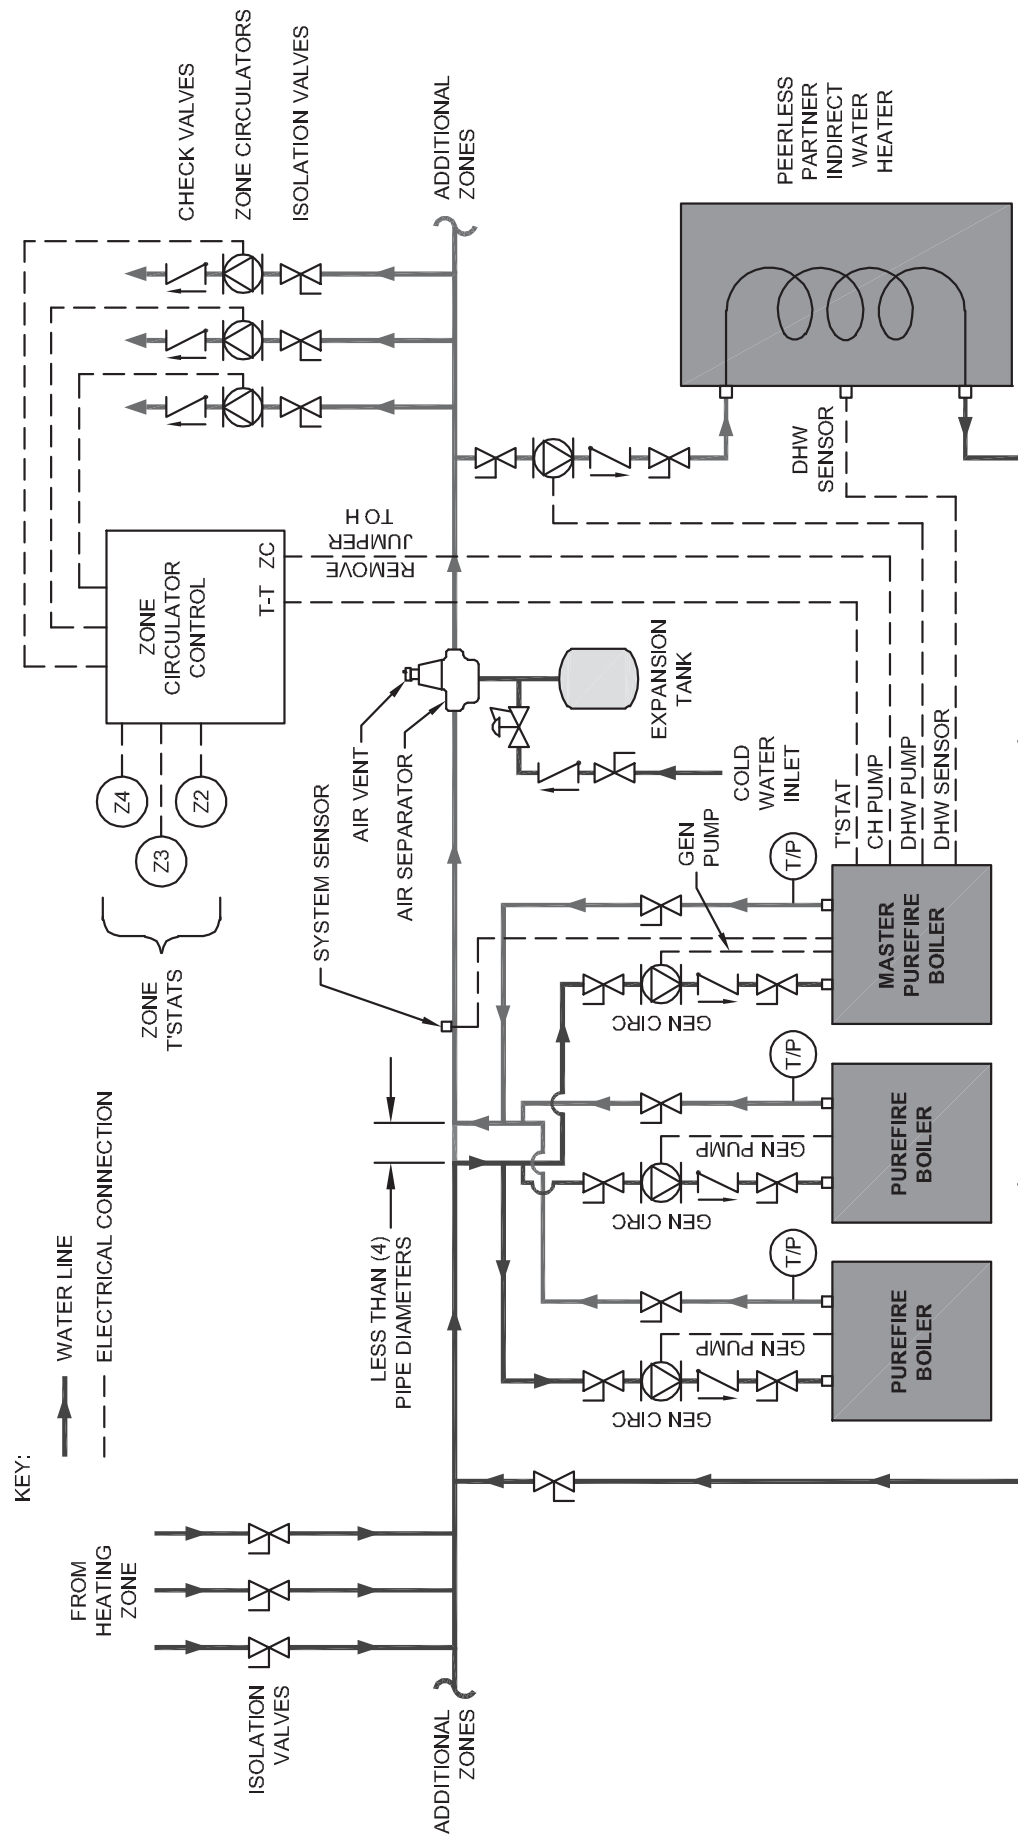

Figure 8.5: Multiple Boiler (Cascade) Piping / Electrical Connections for Systems with Zone Circulators
- Figure 8.5 shows a typical system which uses a circulator zone control panel to control the central heating zones.